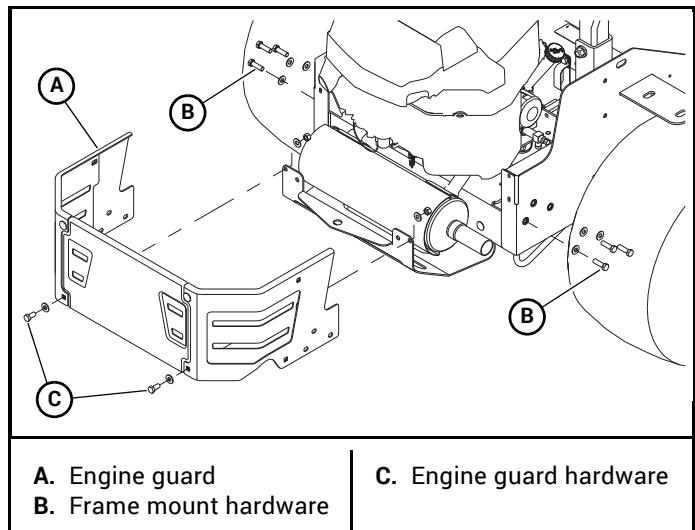

Figure 3-3
7. Remove the engine guard. Do not remove the muffler guard. Keep the engine guard hardware with the engine guard. Keep the frame mounting hardware for installing the mount plates. Figure 3-3